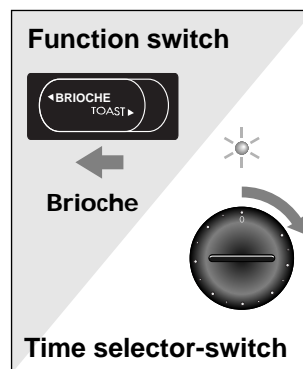

Fig. 3
- Shut front panel and set function-control switch (F) onto the “BRIOCHE” position (fig. 3).
- Shut front panel and set function-control switch (F) onto the “BRIOCHE” position (fig. 3). Set the warming time, by turning Timer-knob (E) clockwise, see table which follows for reference. The pilot light will come on to show that the appliance is in use. A buzzer will sound to indicate that the set warming-time has elapsed: the fragrant pastries are now ready for tasting.